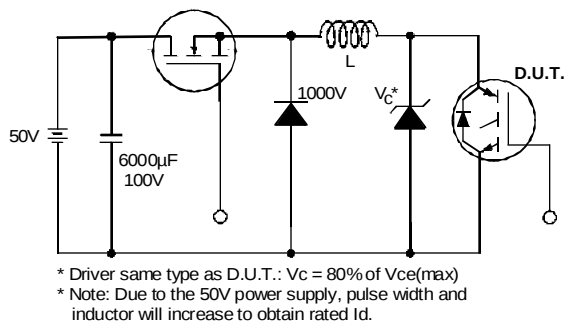

Fig. 19 - Clamped Inductive Load Test Circuit
② $V_{CC}=80\%(V_{CES})$, $V_{GE}=20V$, $L=10\mu H$, $R_G=50\Omega$, (See fig. 19)
③ Pulse width $\leq 80\mu s$; duty factor $\leq 0.1\%$.
④ Pulse width 5.0 μs , single shot.